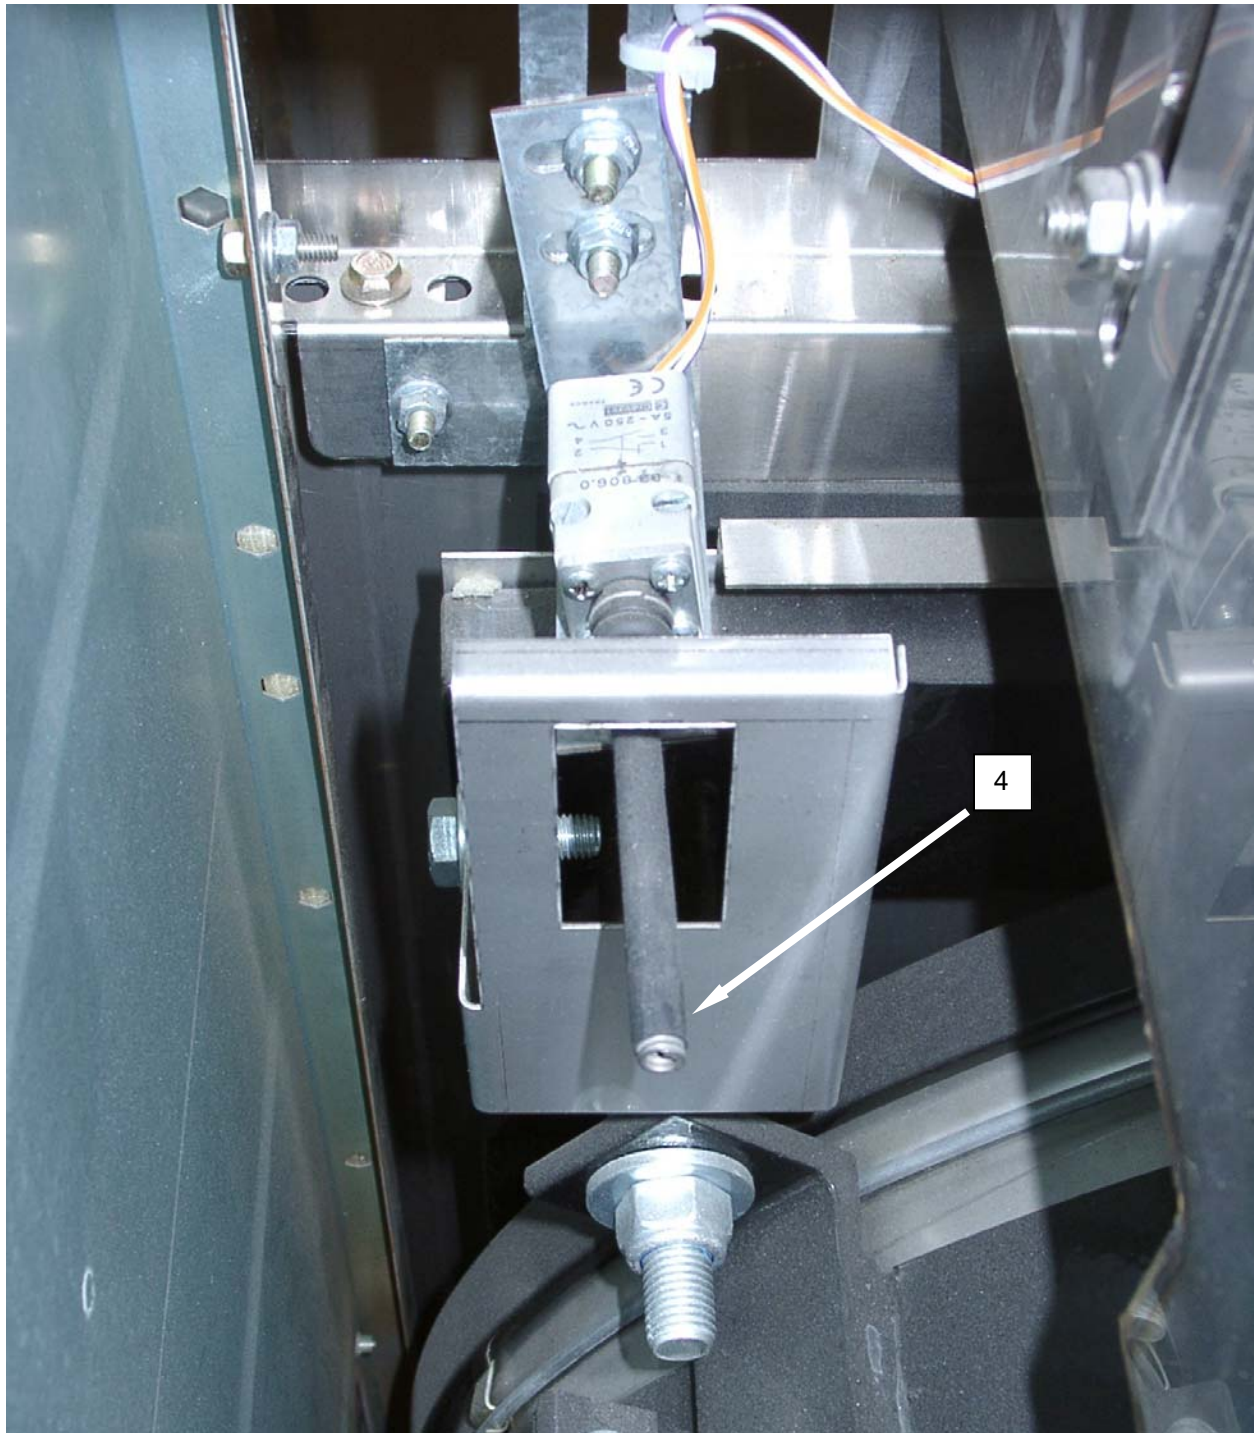

Figure 2. Test the Washer Balance Switch.
5. Ensure that switch trigger spring (**Figure 2, Item 4**) is not disturbed, and use an ohmmeter to test for 0 ohms resistance.
6. Deflect switch trigger spring (**Figure 2, Item 4**), and use an ohmmeter to test for an open circuit.
9. Install the washer right front panel (**Figure 2, Item 1**) and retain with screw.